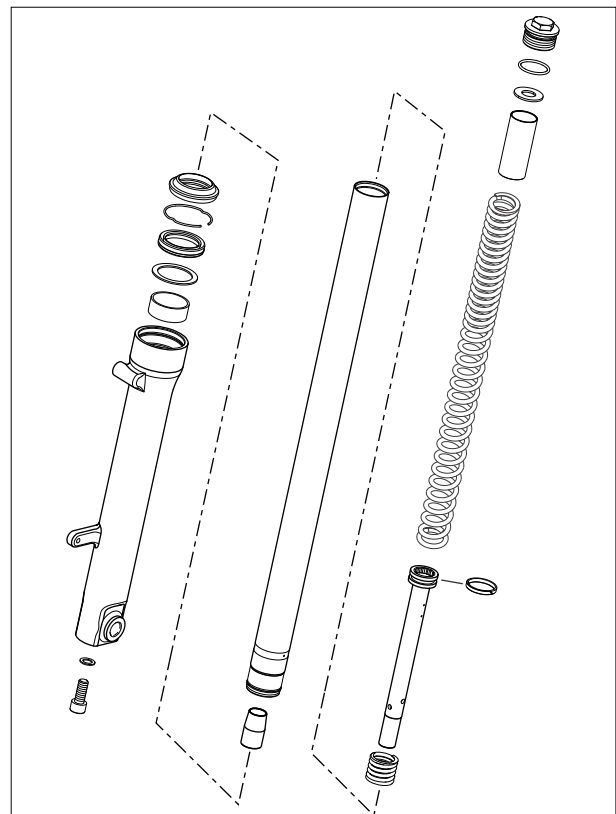

Fig. 6.63
- ▮ Refer leg assembly front fork exploded view (Fig. 6.63) for assembly details.